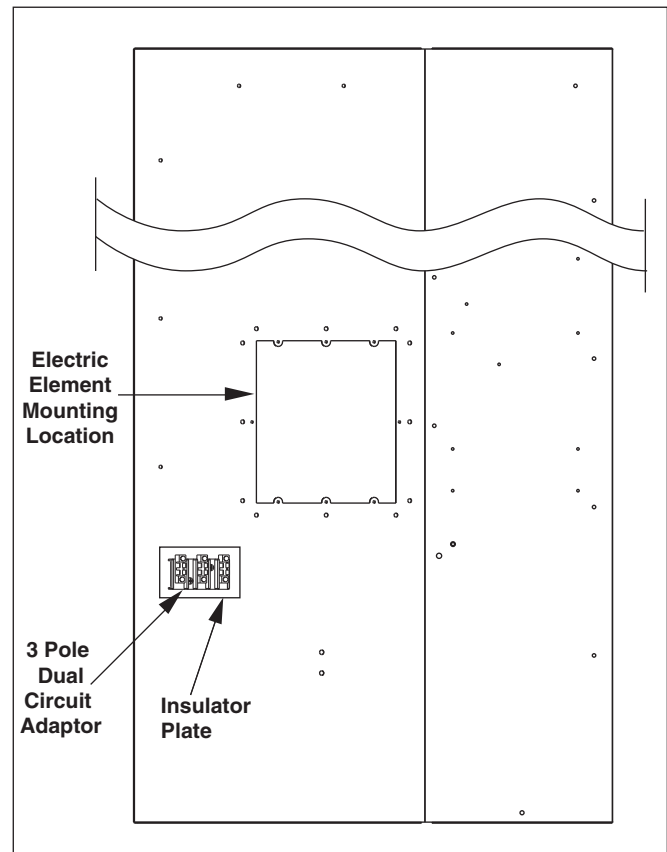

Figure 1. Terminal Board Location
4. Using the supplied screws, install the 3-pole terminal block with the insulator plate between the sheet metal panel and the terminal block. The terminal block should be installed to the bottom left side of the element mounting location, on the left side of the panel. See figure 1. Tighten the screws hand tight, enough to securely fasten the terminal block and insulator plate to the panel and prevent any movement of the terminal block. Over-tightening can crack the terminal block.